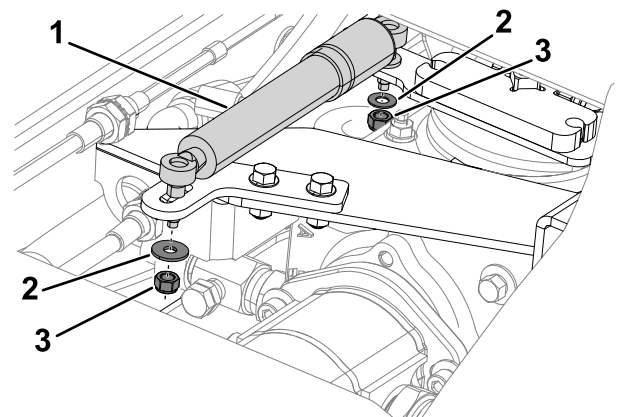

Figure 87
- Remove the washers and nuts that secure the dampener to the transmission pump and bracket (Figure 87).